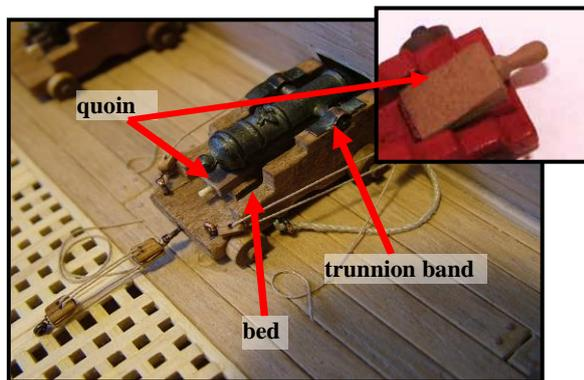

Figure 7: Main Deck Gun; Non-Standard Build
**The easiest approach for a basic build is to use the carriages as they are supplied.** (Figure 7 shows the visible guns on the Main Deck and they are non-tapered !)